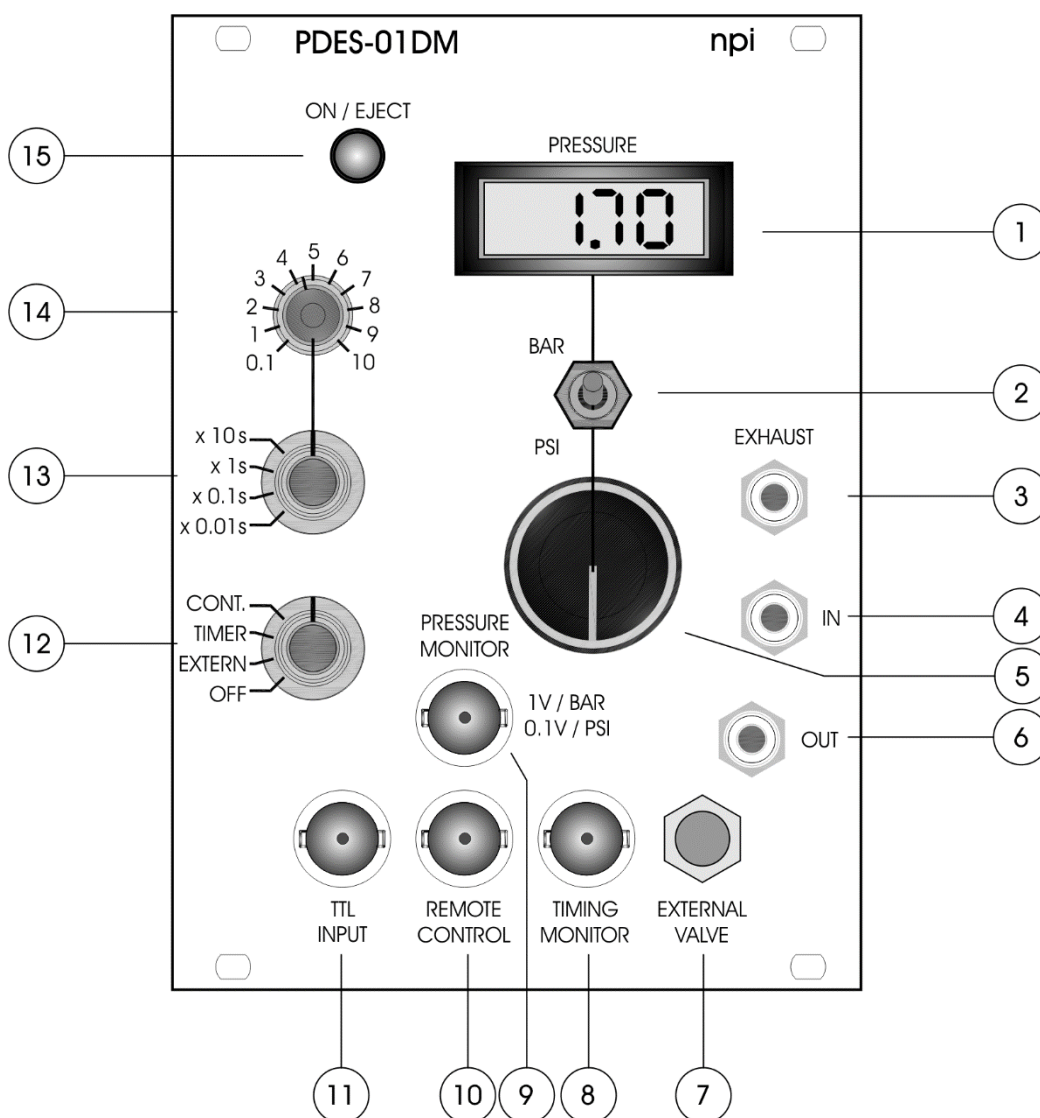
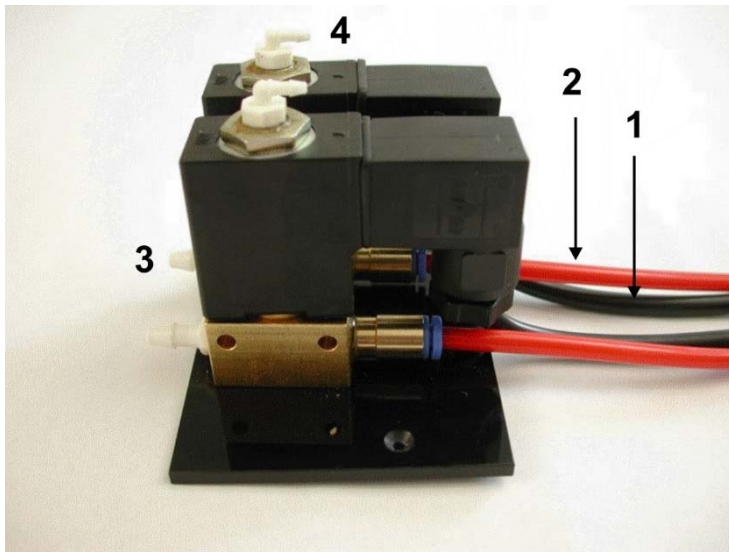

Figure 5: PDES-01DM front panel view (the numbers are related to those in the text below)
Figure 6: external valves on remote valve plate
The valve which is controlled by the PDES is located on the remote valve plate (see Figure 6). Tubing and cable of the external valves are connected at the front panel of the PDES system (refer to chapter 3.3). Exhaust is usually not connected.
- ❑ connect the *microJECT* pipette holder to the two *microJECT* connectors at the front panel (#6 and #7, Figure 5), and connect your ejection pipette to the *microJECT* (#1, Figure 6).
- ❑ Turn on pressure and adjust the pressure to the desired value using the pressure regulator (#5, Figure 5).
- ❑ Connect a timing unit to the TTL INPUT connector (#11, Figure 5) at the front panel
connect a pushbutton to the REMOTE CONTROL connector (#10, Figure 5) at the front panel
- ❑ Select the operation mode using the rotary switch (#12, Figure 5) at the front panel.
- In the TIMER position the duration is preset by the timer control (#14, Figure 5) and time base (#13, Figure 5) of the PDES. Application is started with a TTL signal connected to TTL INPUT (#11, Figure 5) or by pressing the pushbutton connected to #10, Figure 5. In position OFF of the timer control for pressure ejection is disabled.
- In the OFF position the PDES module is turned OFF, the valve is closed. LED (#15, Figure 5) is also off. The source pressure value is still shown at the manometer #1, Figure 5, but opening of the valve is disabled in OFF position.
Hint: Ejection time can be monitored by recording the signal at #8, Figure 5!